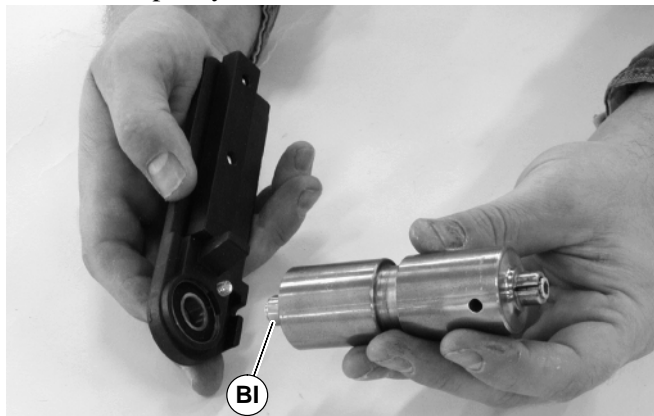

Figure 44
1. With bearing installed in head plate, press bearing on to shaft (BI of Figure 44) of pulley. Repeat for both sides of pulley.